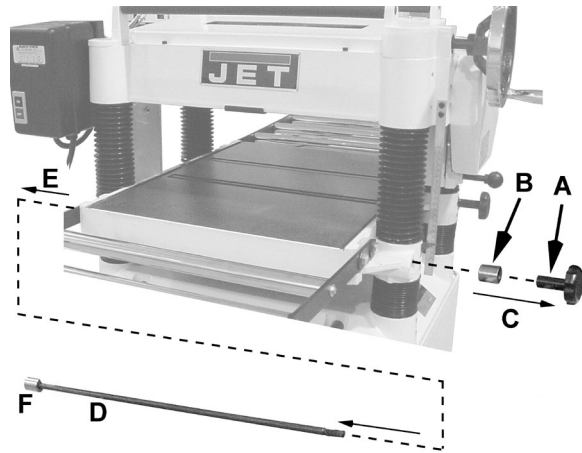

Figure 3
Referring to Figure 3:
The first step in the installation of the DRO is to reverse the table lock knob assembly so the *lock knob* (A), which is located on the right side of the table as shown in Figure 3, is moved to the left side.